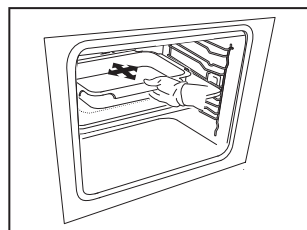

Fig. 5
2. Place the cooking vessel at the centre of the markings on the glass (Fig. 5).